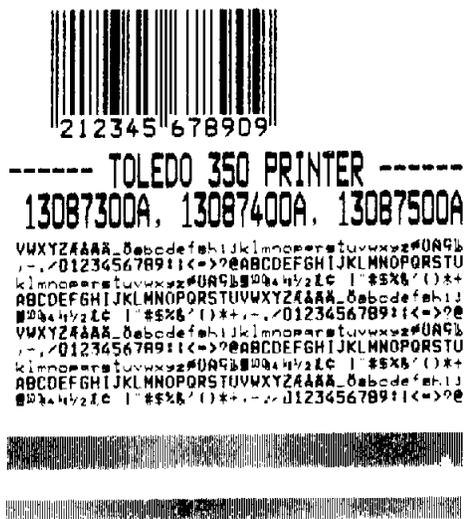

FIGURE 12
1. PRESSING AND HOLDING the <LABEL FEED> button will initiate printing a diagnostic test label. If a test label is not issued, or is different from the one shown in figure 12, proceed to step-2, Voltage Checks.